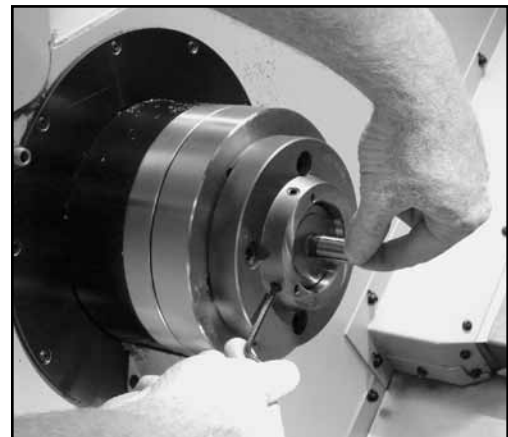
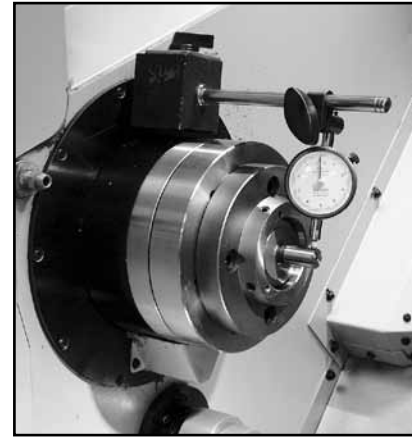

Figure 8 – Expanding Collet
Figure 10 – Dial Indicator
8. Install four concentricity **Adjustment Screws** (Figure 8) in the spindle collar.
9. Place the **Expanding Collet** in the spindle collar and tighten the adjustment screws until the collet is held securely. (Figure 8) If installing an emergency collet, skip to page 4 of the instructions.
11. Set up a dial indicator (Figure 10) and adjust the screws (Figure 8) until concentricity is obtained.
5. Set up a dial indicator as shown in Figure 10, and adjust the screws (Figure 8) until concentricity is achieved.